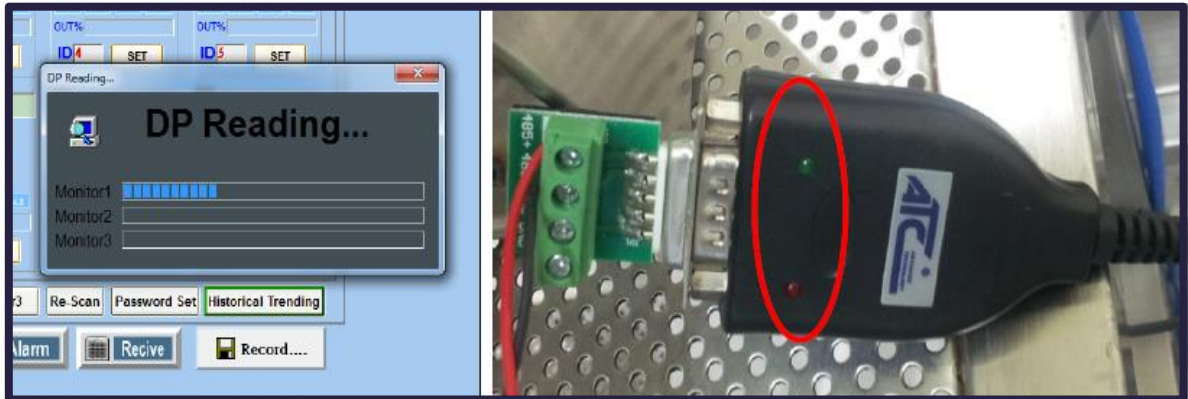

Figure. 18
- The pop up window with “DP Reading” will appear and Red and Green LEDs on the “ATC-820 USB <=> RS-485 Interface converter” will glow. Ensure that the USB of the converter is connected to the CPU of the computer system and “Set Up” has been carried out (Figure. 18).